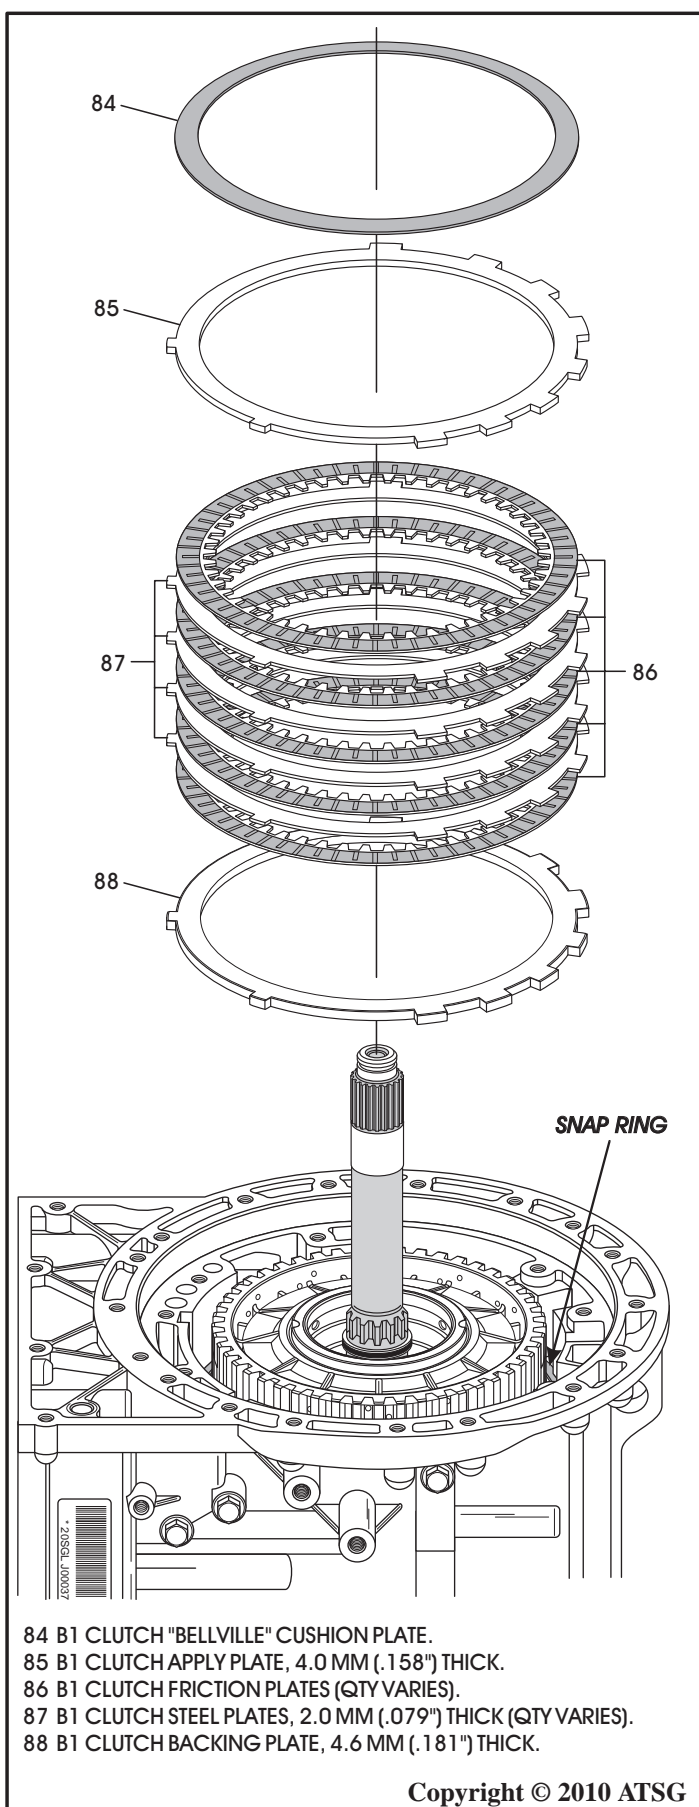

Figure 55
35. Remove the B1 clutch cushion plate, as shown in Figure 55.
36. Remove the B1 clutch apply plate, as shown in Figure 55.
37. Remove the B1 clutch friction and steel plates, as shown in Figure 55.
38. Remove the B1 clutch backing plate, as shown in Figure 55.